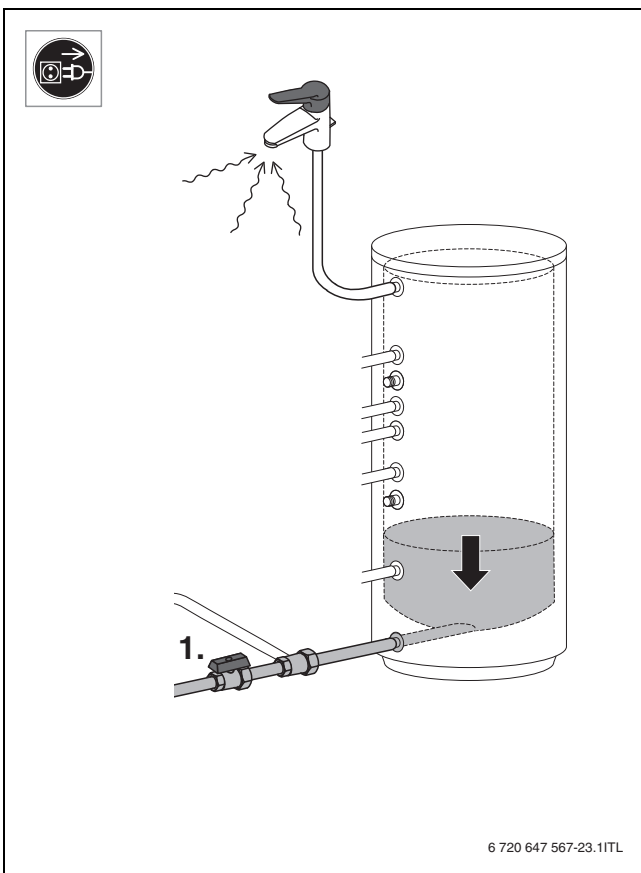

Fig. 17
- ▶ Vidanger le ballon (→ fig. 17, page 63).